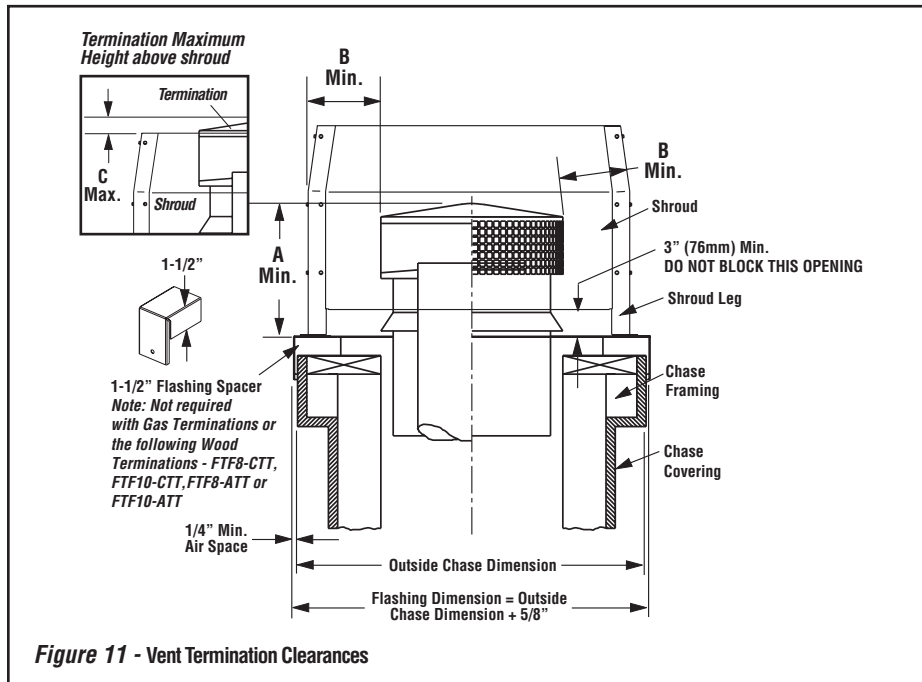

Figure 11 - Vent Termination Clearances
These kits are NOT approved to have the height cut down or modified. The width of the side panels can be cut to a shorter width (see Figure 11 on Page 4). After modification, the minimum clearances must be maintained as specified on Page 4 and in the instructions provided with the appliance and termination.
On existing construction, the flashing must be removed in order to install the spacers on some installations (read Step 1 below). A new flashing may be required to account for the extra height on the spacers (see Figure 11).
Before proceeding, ensure the shroud will meet or exceed the minimum requirements for the termination cap you are going to install as shown in Figure 11.
- Step 3.** Mount the chase flashing over the spacers (if applicable). Secure to the chase with nails or screws (See Figure 11).